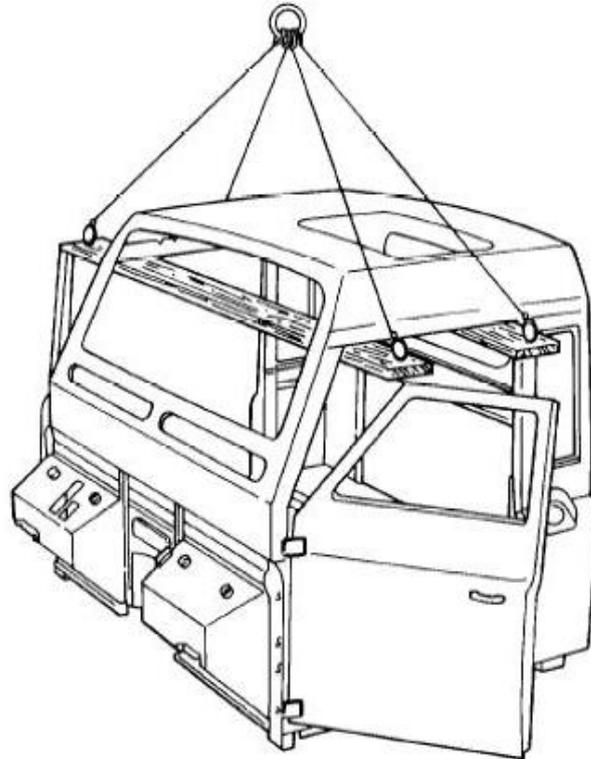

Figure 337 Removal of the Cab
- t. Connect suitable lifting slings to the cab and attach the ends of the slings to suitable overhead lifting equipment and take-up the slack (Figure 337).